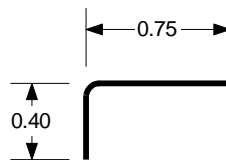

Figure 9 - Standard 0.035" Allen Key Cut to 0.75" Length
3. Using needle nose pliers, insert the Allen wrench into the key access hole in the encoder. See Figures 9 and 10 for access hole location.